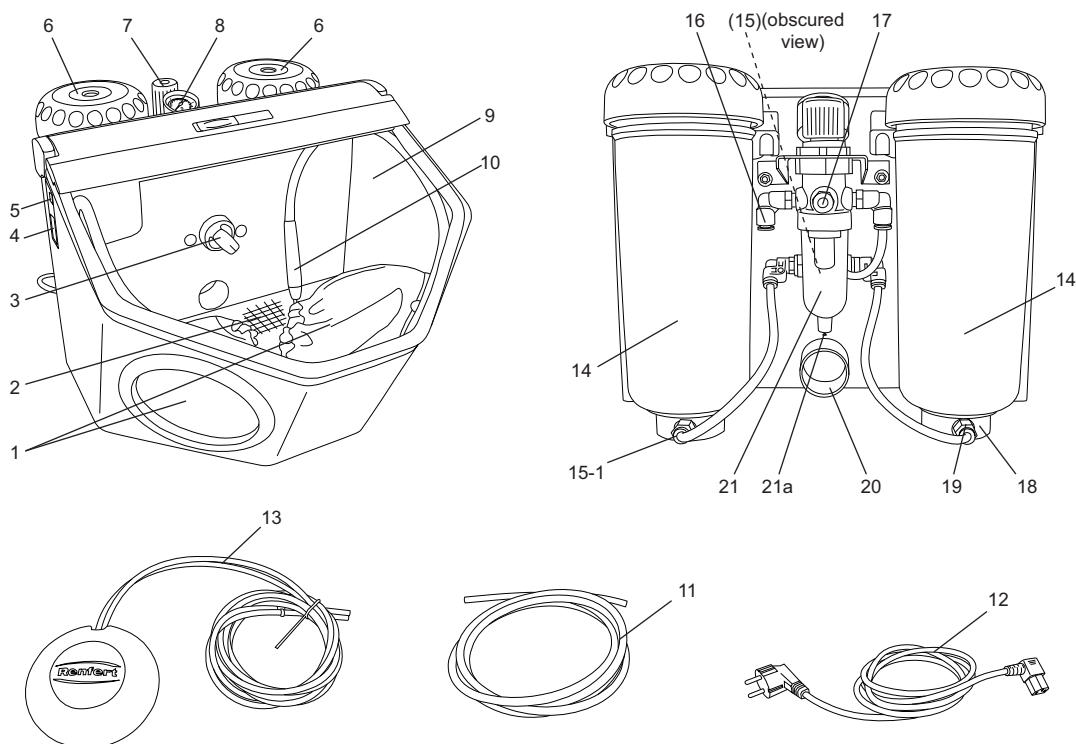

fig. 1
1-tank version: (15-1, Abb. 1)
- Switch the illumination on (5).
- Select the blasting tank at the selection switch (3, fig.1) (only on the 2-tanks version).
- Activate the foot switch (13, fig.1).